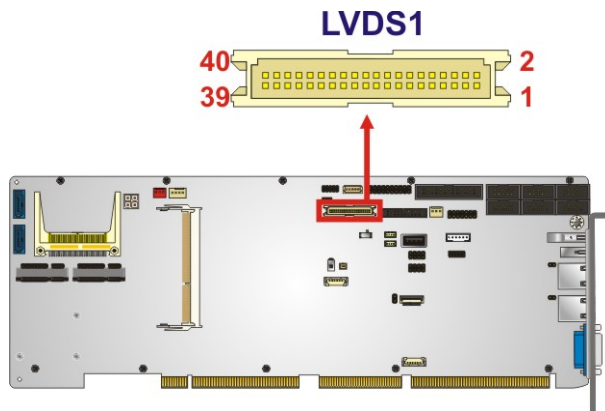

Figure 3-18: LVDS Connector Location
- CN Location:** See **Figure 3-18**